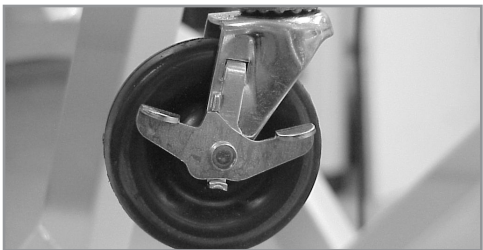

Figure 25
- 1. To keep the bed from rolling when in the lowest position, press down on the locking lever to lock casters (Figure 25).